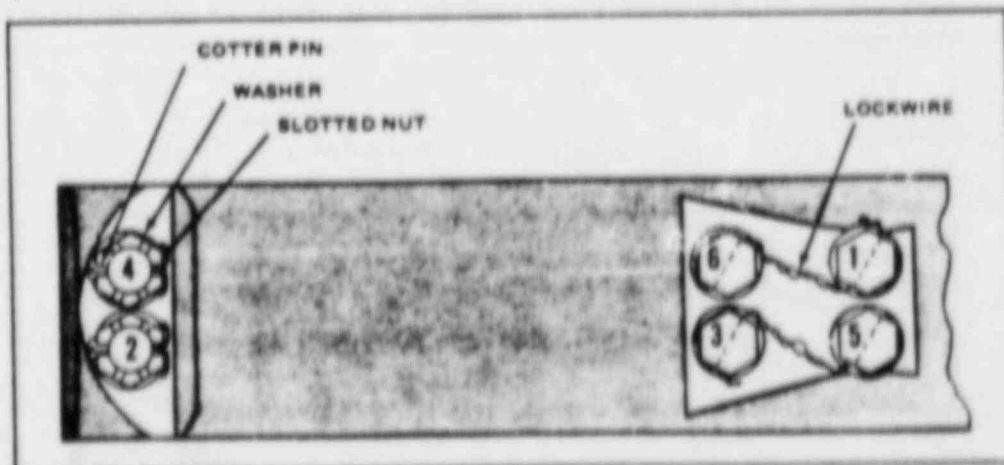

Figure 6-C-15. Tightening Sequence For Connecting Rod Bolts And Nuts
- Attach chain puller bracket to master rod side of crankcase. Attach chains in same way as was done for master rod removal (see figure 6-C-3). Draw connecting rod box into engagement with crankpin and master rod. Be sure serrated joints are properly engaged. In the case where the link rod is retained by the piston holder spacer ring, adjustment of the jacket screws and spacer ring may be necessary to achieve the necessary alignment of parts.
- b. Apply a mixture of powdered graphite and lubricating oil to the threads of the connecting rod bolts and the rod-to-box bolts. Assemble bolts, washers and nuts. Install washers so that bolt head or nut rests in the counterbore of the washer. Tighten to torque specified in the Torque Tables, Appendix IX in three steps, and in the sequence shown in figure 6-C-15. Safety wire the bolt heads and install cotter pins in the slotted nuts as shown in figure 6-C-15.